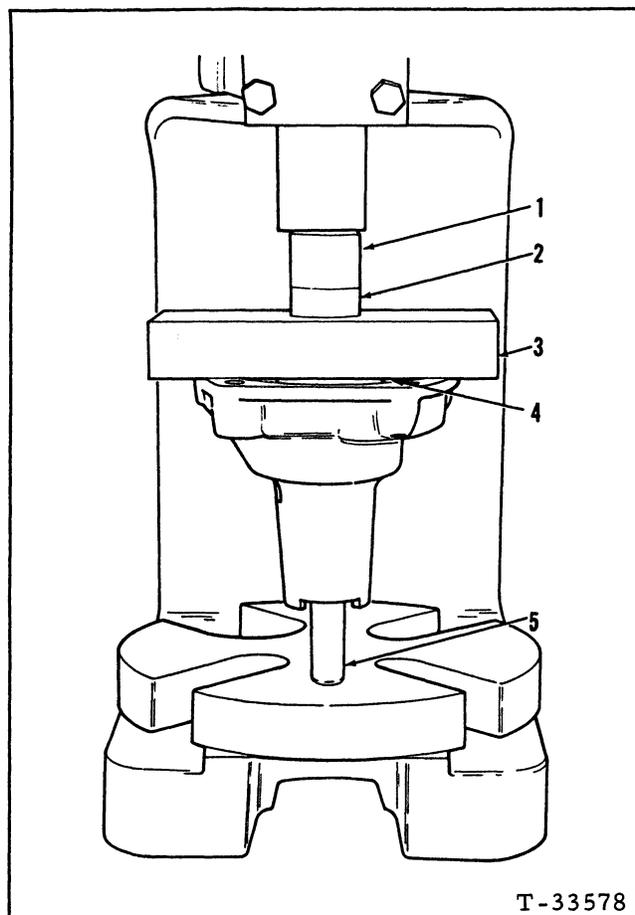

FIG. 16 INSTALLING PUMP IMPELLER
4. Position pump on press with end of impeller shaft on bed plate as illustrated in Fig. 16. Ceramic impeller insert must be free of oil, grease, and fingerprints before impeller is installed. Wipe face of insert with an absorbent paper or lint-free cloth to remove all foreign material. If necessary, clean surface with trichlorethylene solvent and wipe dry.
Position impeller on upper end of shaft. Place impeller positioning plate on machined surface of pump body as illustrated in Fig. 16. Install spacer on impeller drive tool and place drive tool in hole of fixture. Press impeller on shaft until tool bottoms on fixture. The tool will properly position impeller on shaft to a dimension of .030"-.040" (.762-1.016mm) from machined surface of impeller hub to rear face of pump body. See Figs. 14 & 17. This dimension ensures correct clearance between impeller blades and pump cover when installed with gasket.